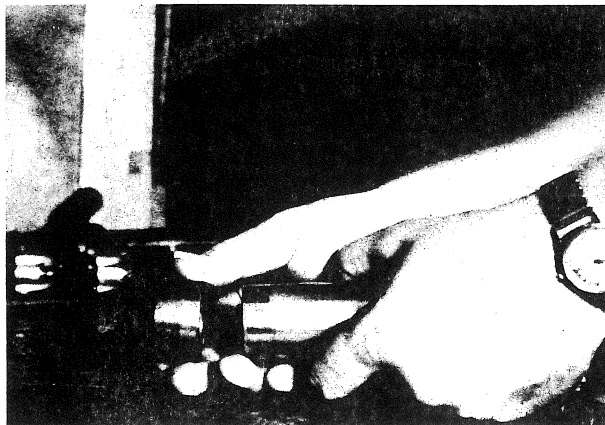
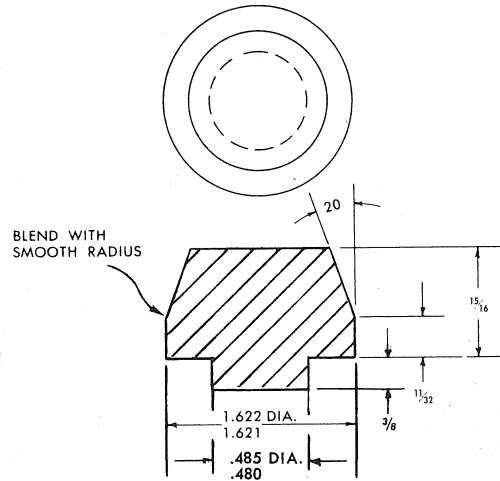

Fig. 6
Fig. 7
by tapping lightly with a hammer against a block of wood. The seals should be pressed in (27) as shown in cutaway pump view. When returning crossheads thru new seals care should be taken not to turn back or damage the lip of the seal. An assembly thimble can be very helpful in this operation. Fig. 6 illustrates an assembly thimble being placed on the end of the crosshead. Fig. 7 shows a recommended thimble for installation of oil seals.